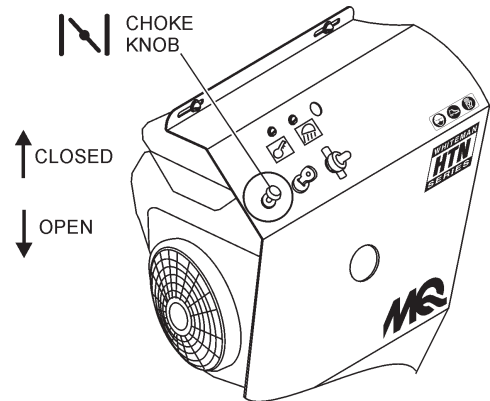

Figure 9. Choke Knob (Kohler 27 HP only)
5. When starting a cold engine, pull the choke knob, if so equipped, (Figure 9) out to the **closed** position. In warm weather or when the engine is warm, the unit can be started with choke halfway or completely **open**. (27 HP engine)